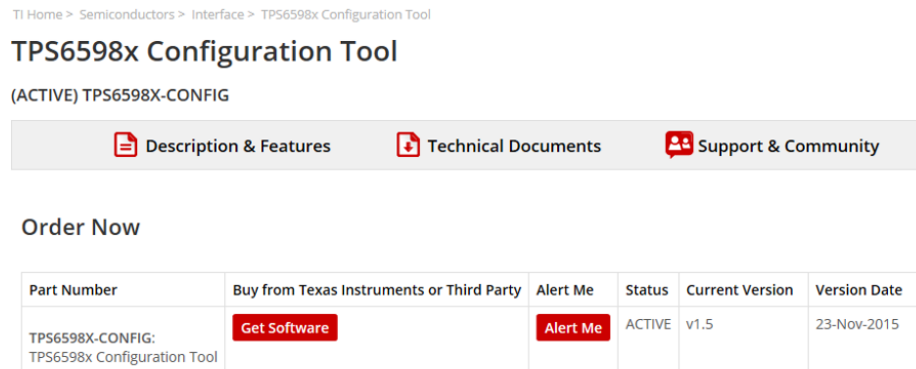

Figure 12. TPS6598x Configuration Tool Download Page
1. Follow the TPS6598x configuration tool link from TI.com, as shown in Figure 12.